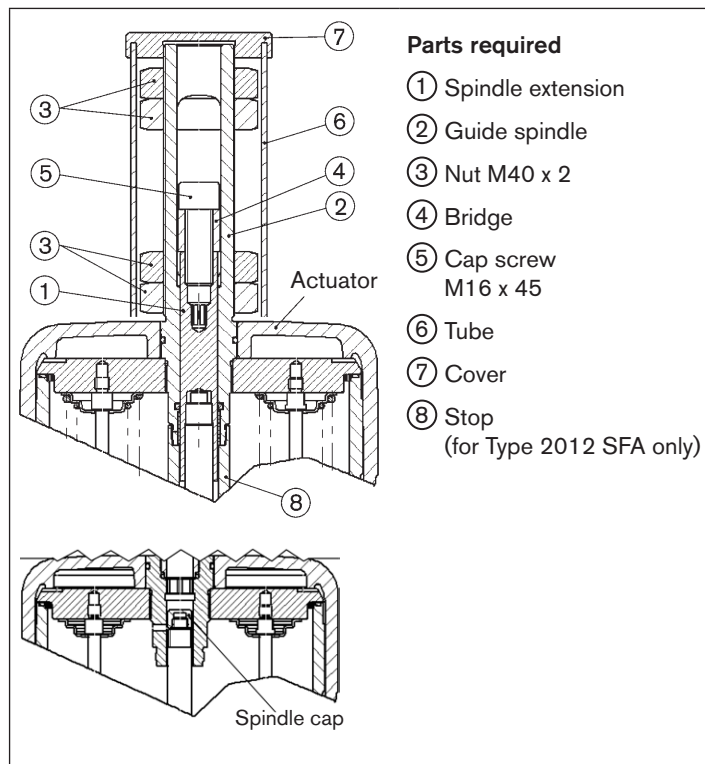

Fig. 8: Actuator size 175, 225 (Ø in mm)
- Screw out position indicator/spindle cap (yellow screw cap; see "Fig. 8") by hand.
- Lightly grease spindle extension ① (silicone grease OKS 1110-0).
- Screw spindle extension ① (with Allen key size 8) onto actuator spindle (M16x1.5) and secure with Loctite 274.